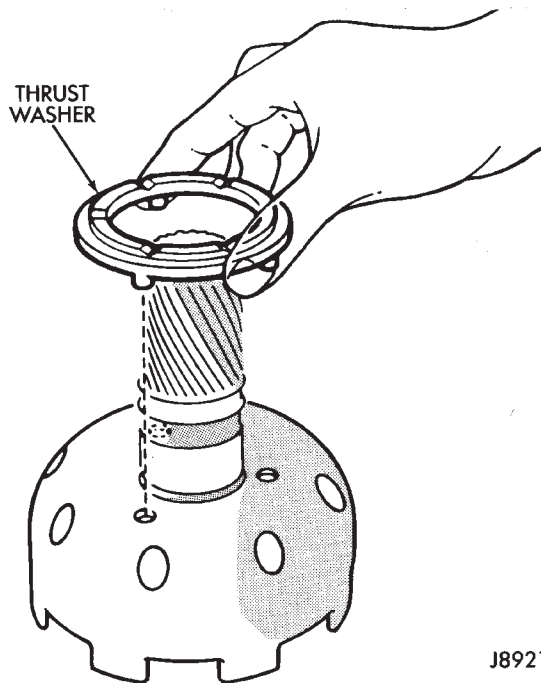

Fig. 4 Removing/Installing Thrust Washer
(3) Remove thrust washer from drum (Fig. 4).